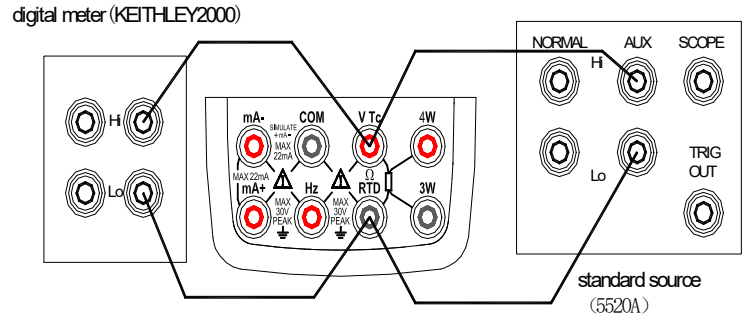

Figure 13 Adjusting resistance source
**Step 1:** Using the key (OHM), select resistance function. Connect the lead cables for measurement to the standard digital meter as shown in Figure13.